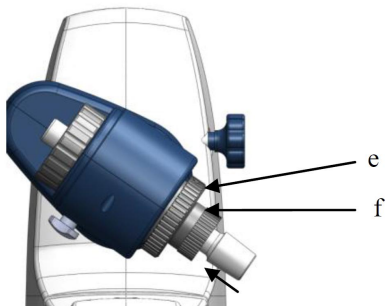

Figure 4
- Open the locking device on the drive head by turning it 60° counter clockwise (e), (Figure 4).
- The plastic screw nut (f) helps loosen evaporating flask(Figure 4)